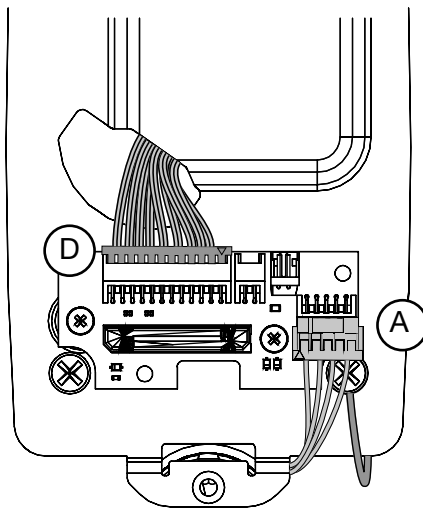

Fig. 12b
- b. Looking down from top of controller, ensure proper alignment of board-to-board connectors (Fig. 12b) while pivoting controller toward door until two tabs on top snap securely into place on mounting plate (Fig. 12b).